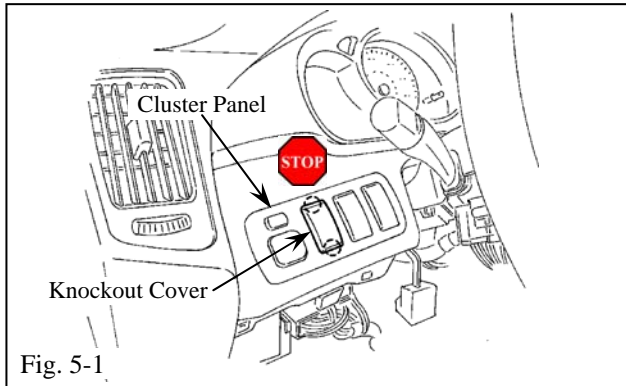
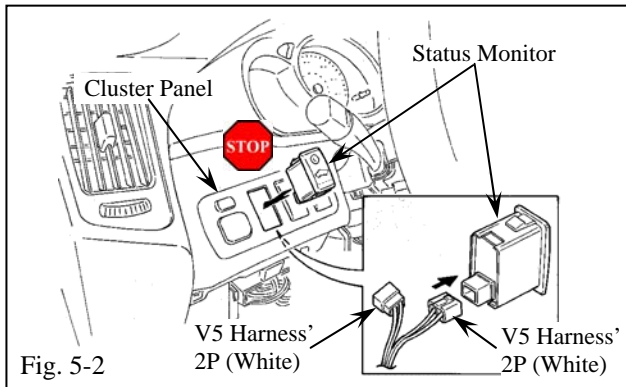
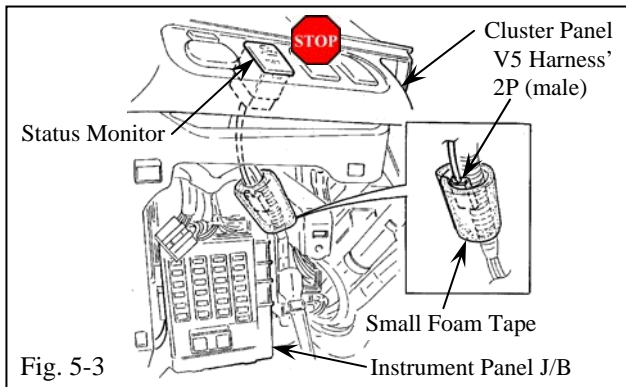

Fig. 5-1
Fig. 5-2
Fig. 5-3
- (a) Remove the knockout cover from the far left space of the cluster panel. (Fig. 5-1)
- (1) Do not perform this step if the vehicle has an Immobilizer system.
- (b) Plug in the V5 harness' white 2P connector to the status monitor. (Fig. 5-2)
- (2) Verify the connectors are plugged in securely.
- (c) Insert the status monitor into the knockout opening of the cluster panel. (Fig. 5-2)
- (1) Do not use the V5 Harness' white 2P connector (male).
- (d) Do not use the V5 harness' white 2P connector (male); wrap it to the vehicle harness with one small strip of foam tape. (Fig. 5-3)